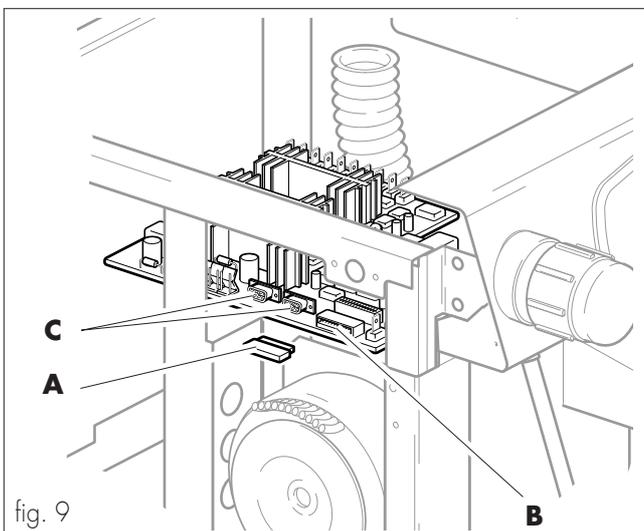

fig. 9
- Insert the key (ref. **A**, fig. 9) into the connector (ref. **B**, fig. 9) of the electronic board.
Beside the "nation key" connector the RS 232 serial port (ref. **C**, fig. 9) is found.